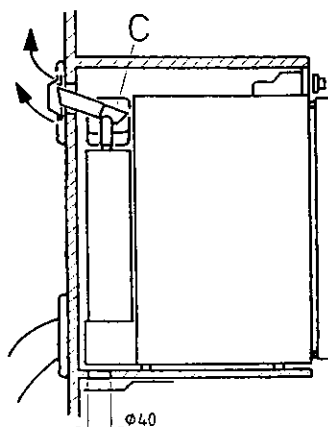
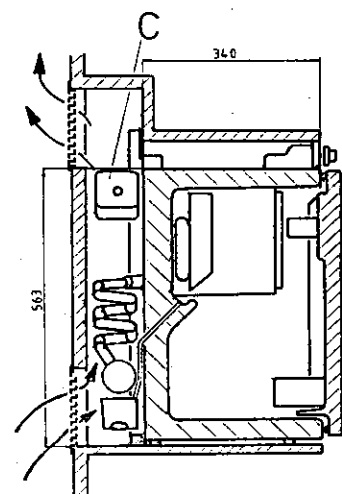

Fig. 9
Fig. 10
The refrigeration unit is ventilated via two openings in the wall of the caravan (see Fig. 10). Fresh air enters through the lower opening and warm air is discharged through the upper one.
Locate the lower opening immediately above the floor of the recess, and the upper one as high as possible above the condenser (C) of the refrigeration unit, at least as shown in Fig. 9 but preferably as shown in Fig. 10.
(Alt. I), Fig. 10.
The ventilation passage at the rear of the recess is limited by the caravan wall and the rear of the refrigerator, see Fig. 10. It must be completely sealed from the interior of the caravan. Neither flue gas nor air from the ventilation openings in the wall of the caravan must be able to pass into the interior of the caravan.
(Alt. II), Fig. 9.
It is a good idea to install a vent grille above the condenser, (C) in fig 9, if there is free space above the enclosure (e.g. refrigerator built-in under a work top).